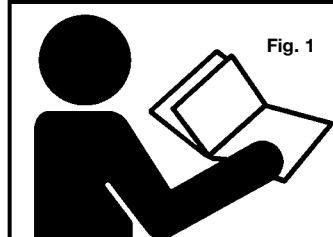

Fig. 1
- **Read and understand tool labels and manual.** Failure to follow warnings could result in **DEATH** or **SERIOUS INJURY**. (Fig. 1)